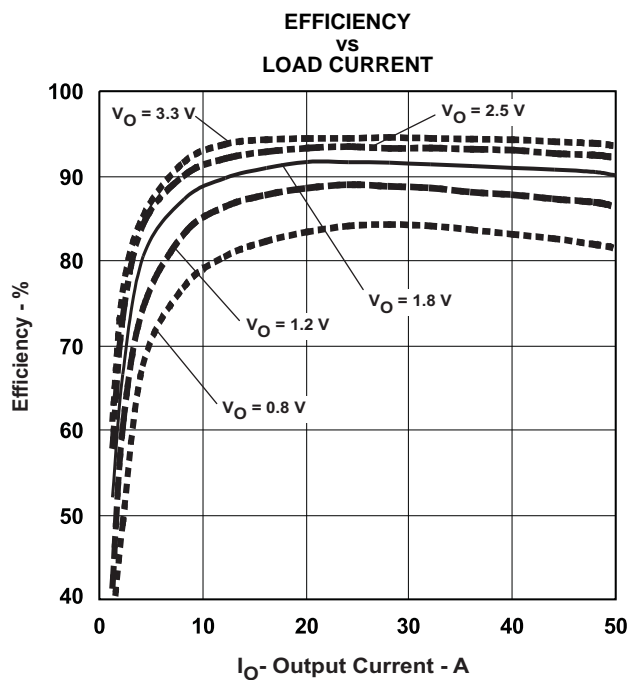
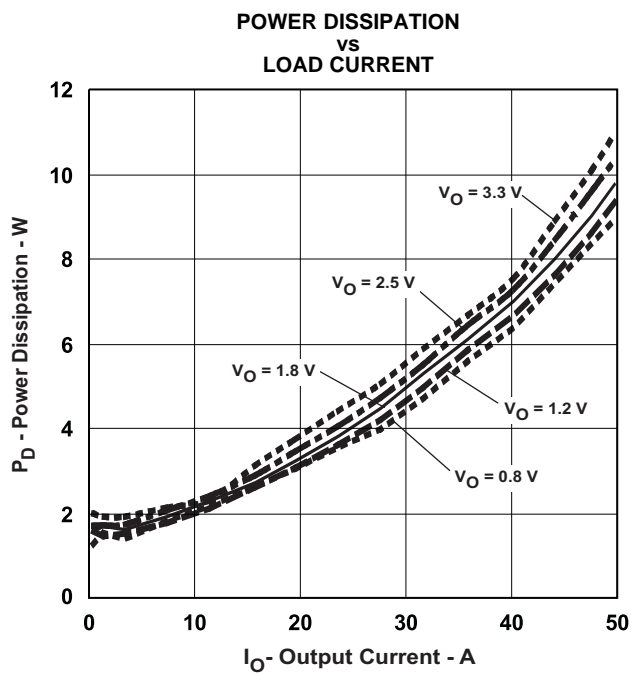

Figure 1.
Figure 2.
- (1) The electrical characteristic data has been developed from actual products tested at 25°C. This data is considered typical for the converter. Applies to Figure 1 and Figure 2.